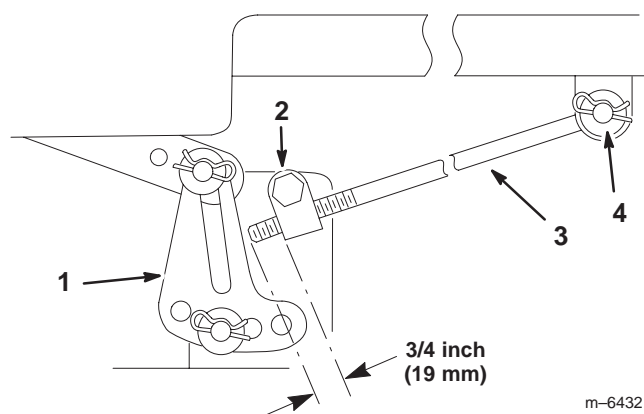

Figure 41
5. Measure the length of the rod extending out of the adjusting block on the sides of the chassis (Fig. 41).
6. If the rod length is **not** a 3/4 inch (19 mm), remove the hairpin cotter and washer from the end of the adjusting rod (Fig. 41) and turn the rod until the 3/4 inch (19 mm) dimension is obtained.